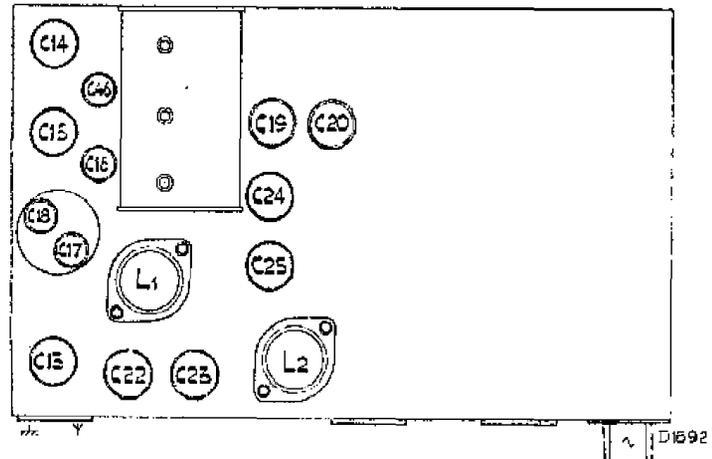
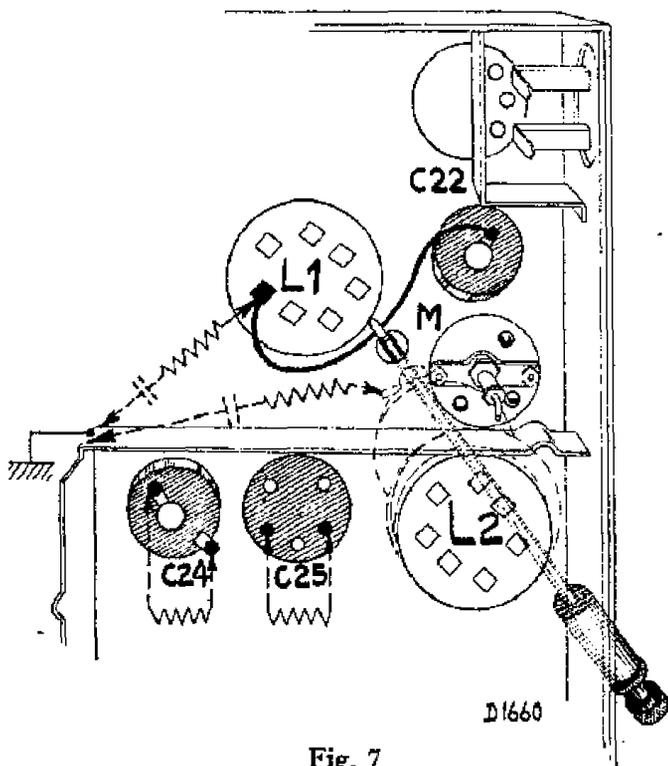

Fig. 5.
Fig. 7
2. Apply a modulated signal of 128 K.C. to the control grid of L1. (Fig. 7).
3. Fit a resistance of 25,000 ohms (Fig. 7) across C24, trim C25 (Fig. 5) to maximum output. After trimming remove the resistance.
4. Connect the auxiliary receiver or amplifier, namely, with test pin Code No. 09.991.620, through the hole M in the chassis, Fig. 7.